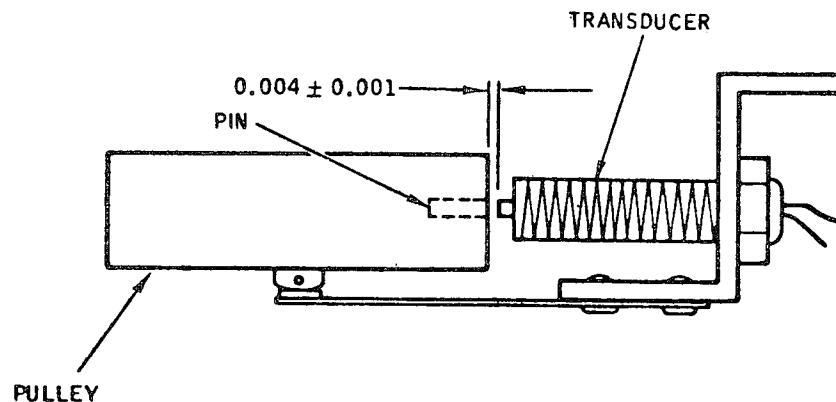

Figure 3-11. Speed Transducer Gap Limits
4. Using nonmagnetic shim material as a feeler gauge, check the gap between the transducer and the carbon steel pin in the spindle pulley. It should be  $0.006 \pm 0.001$  inch, as indicated in Figure 3-11. Also check that the end of the transducer coil is aligned with the pin.